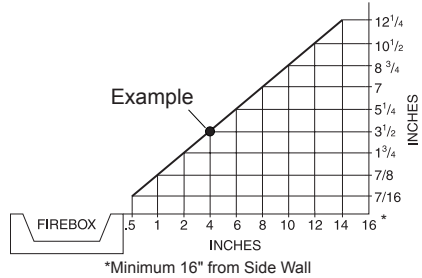

Figure 8 - Minimum Clearance for Combustible to Wall
- where curtains, furniture, clothing or other flammable objects are less than 36" from the front and 42" from top of fireplace; for side clearances see Figure 8, page 10
- Clearances from the side of the fireplace cabinet to any combustible material and wall should follow diagram in Figure 8.
Example: The face of a mantel, bookshelf, etc. is made of combustible material and protrudes 3 1/2" from the wall. This combustible material must be 4" from the side of the fireplace opening (see Figure 8).